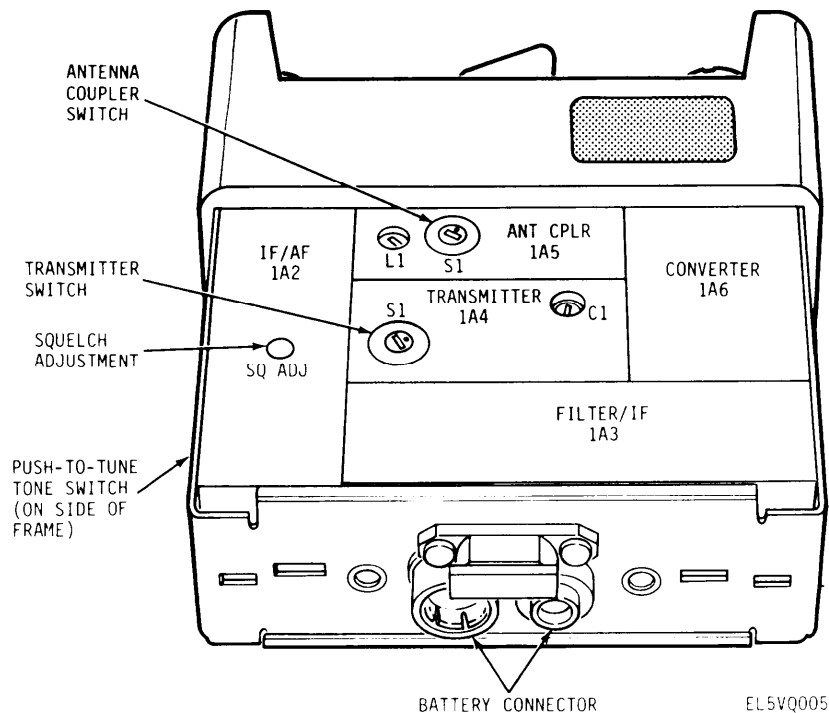

Figure 2-1. Radio set component locations, front view.
- (3) Set the transmitter switch and antenna coupler switch (fig. 2-1) with the enclosed alignment tool to the same position as switch A on the synthesizer module.
- (4) Connect battery.
b. *Alignment.* After the frequency of the radio set has been changed, perform the following procedures for radio set alignment (fig. 2-1):
- (1) Install antenna (either short or long).
- (2) Set CHAN switch to 5.
- (3) Preset C1 on the transmitter module fully clockwise (use enclosed alignment tool of JFD 5284).
- (4) Set PWR OFF/ON/SQUELCH DIS switch to ON.
- (5) Press push-to-tune switch (on side of radio set) and adjust VOL control for comfortable level.
- (6) Using the alignment tool, adjust C1 on the transmitter module counterclockwise for the lowest tone.
- (7) Release push-to-tune switch.
- (8) The antenna coupler adjustment (L1) must be made using Test Set TS-3354/PRC-68 (test set),